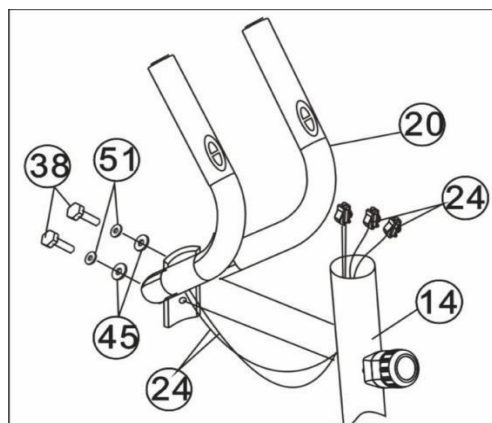
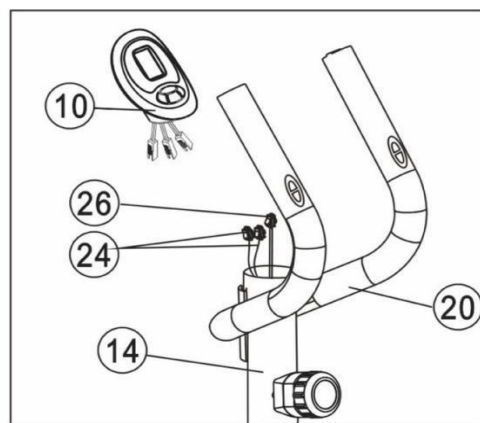

Figure 4
Figure 5
- a. Insert the hand pulse wires (24) from hand pulse bar (20) into the hole on the back of Front upright frame (14) and then pull them out from the upper hole of Front upright frame(14).
- b. Attach the hand pulse bar (20) to the groove of Front upright frame (14) with two pcs of Φ 8 arch spacers (51), and M8 x 20 bolts (38). (Refer figure 4)
- a. Connect the Pulse wires (24) with Sensor wire 2 (26) and put the extra wires into the tube.
- b. Attach the Computer (10) to the top of the Front upright frame (14) and tighten with Crosshead bolt M5 x 10 (75). (Refer figure 5)